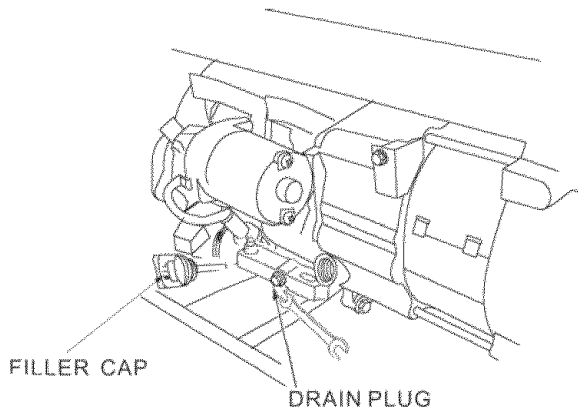

Figure 16- Draining oil
2. Using a 10 mm hex wrench, unscrew the oil drain plug, which is located on the crankcase underneath the oil filler/dipstick cap (see figure 16). Allow all the oil to drain from the generator.